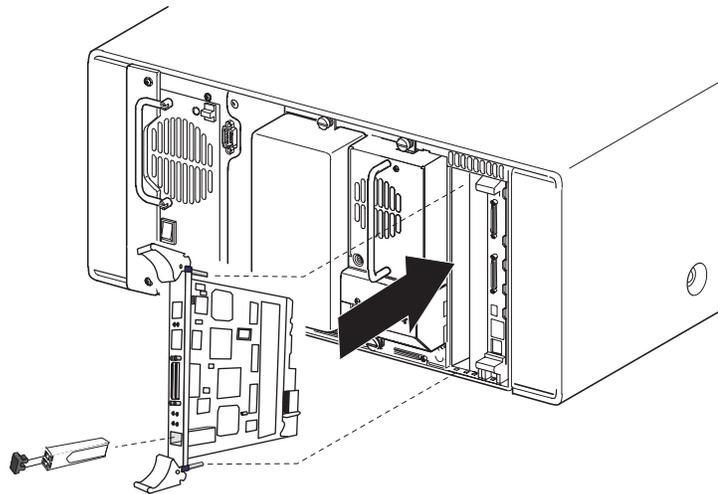

Figure 3. Installing the FCO card
1. Carefully insert the FCO card into the upper and lower guide rails of the option bay, as shown in Figure 3.